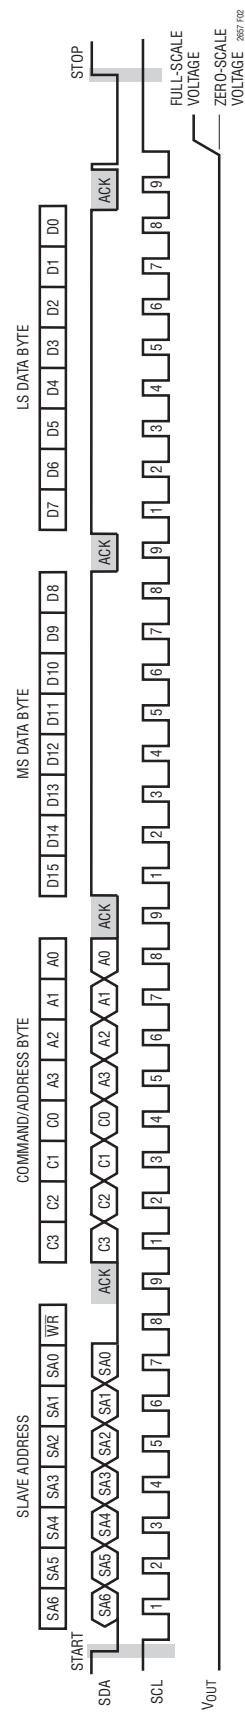

Figure 2. Typical LTC2657 Input Waveform –Programming DAC Output for Full-Scale
The master initiates communication with the LTC2657 with a START condition and a 7-bit slave address followed by the Write bit (W) = 0. The LTC2657 acknowledges by pulling the SDA pin low at the 9th clock if the 7-bit slave address matches the address of the part (set by CA0, CA1 and CA2) or the global address. The master then transmits three bytes of write data. The LTC2657 acknowledges each byte of data by pulling the SDA line low at the 9th clock of each data byte transmission. After receiving three complete bytes of data, the LTC2657 executes the command specified in the 24-bit input word. If more than three data bytes are transmitted after a valid 7-bit slave address, the LTC2657 does not acknowledge the extra bytes of data (SDA is high during the 9th clock). The first byte of the input word consists of the 4-bit command followed by 4-bit address. The next two bytes consist of the 16-bit data word. The 16-bit data word consists of the 16- or 12-bit input code, MSB to LSB, followed by 0 or 4 don't care bits (LTC2657-16 and LTC2657-12, respectively). A typical LTC2657 write transaction is shown in Figure 2. The command (C3-C0) and address (A3-A0) assignments are shown in Table 1. The first four commands in the table consist of write and update operations. A write operation loads a 16-bit data word from the 32-bit shift register into the input register. In an update operation, the data word is copied from the input register to the DAC register and converted to an analog voltage at the DAC output. The update operation also powers up the DAC if it had been in power-down mode. The data path and registers are shown in the Block Diagram.